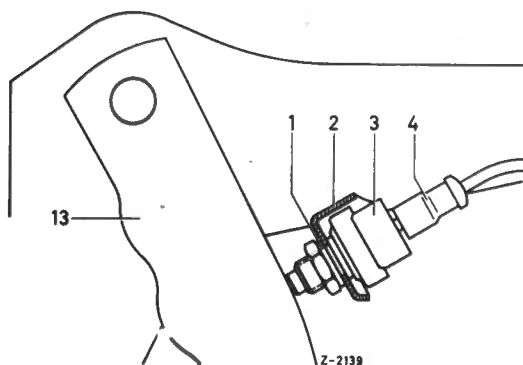

Fig. 29-2/7
4. Remove the snap ring (34) from the pivot pin (29) together with the washer (35). Then take off the push rod (8) together with the spring retainers (9) and (11) and the pressure spring (10) (Fig. 29-2/4).
5. Detach the return spring (7) from the brake pedal (13) (Fig. 29-2/3).
6. Unscrew the hexagon nut from the pivot pin (4), press the pivot pin out of the pedal support (17) and remove both pedals from the support (Fig. 29-2/3).
7. Unscrew the stop light switch (3) from the bracket (2) (Fig. 29-2/7).